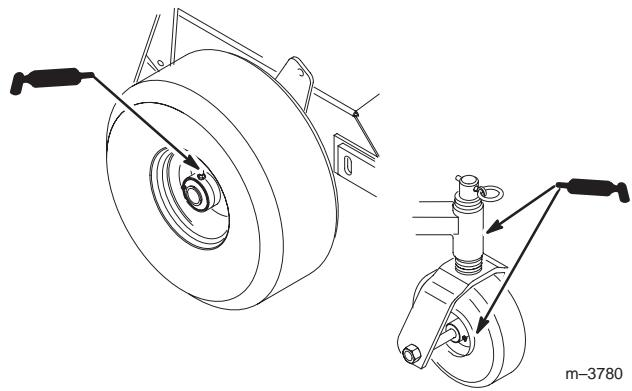

Figure 43
1. Lubricate the drive and caster wheel bearings and front spindles (Fig. 43). Lubricate every 8 hours.